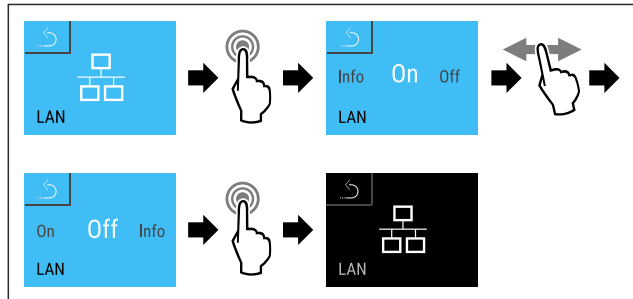

Fig. 128
- ▶ Complete the steps (see Fig. 128).